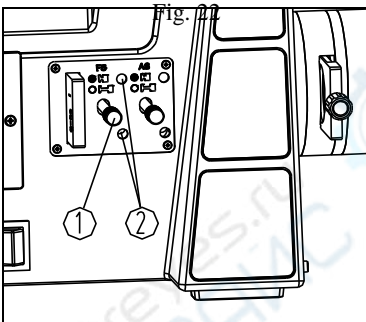
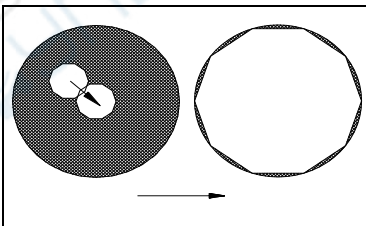

Fig. 23
Fig. 24
(1) Adjusting deflector rod①to the right end, minimize the field diaphragm.. (Fig. 23)
(2) The image of the field diaphragm could be seen in the view field of the eyepiece.
(3) Adjusting the right and the left centering screws ② on the field diaphragm until center the image.
(4) Open the field diaphragm gently, if the image in the diaphragm field is inscribed with the view field, it means that the field diaphragm did centering.(Fig. 24)